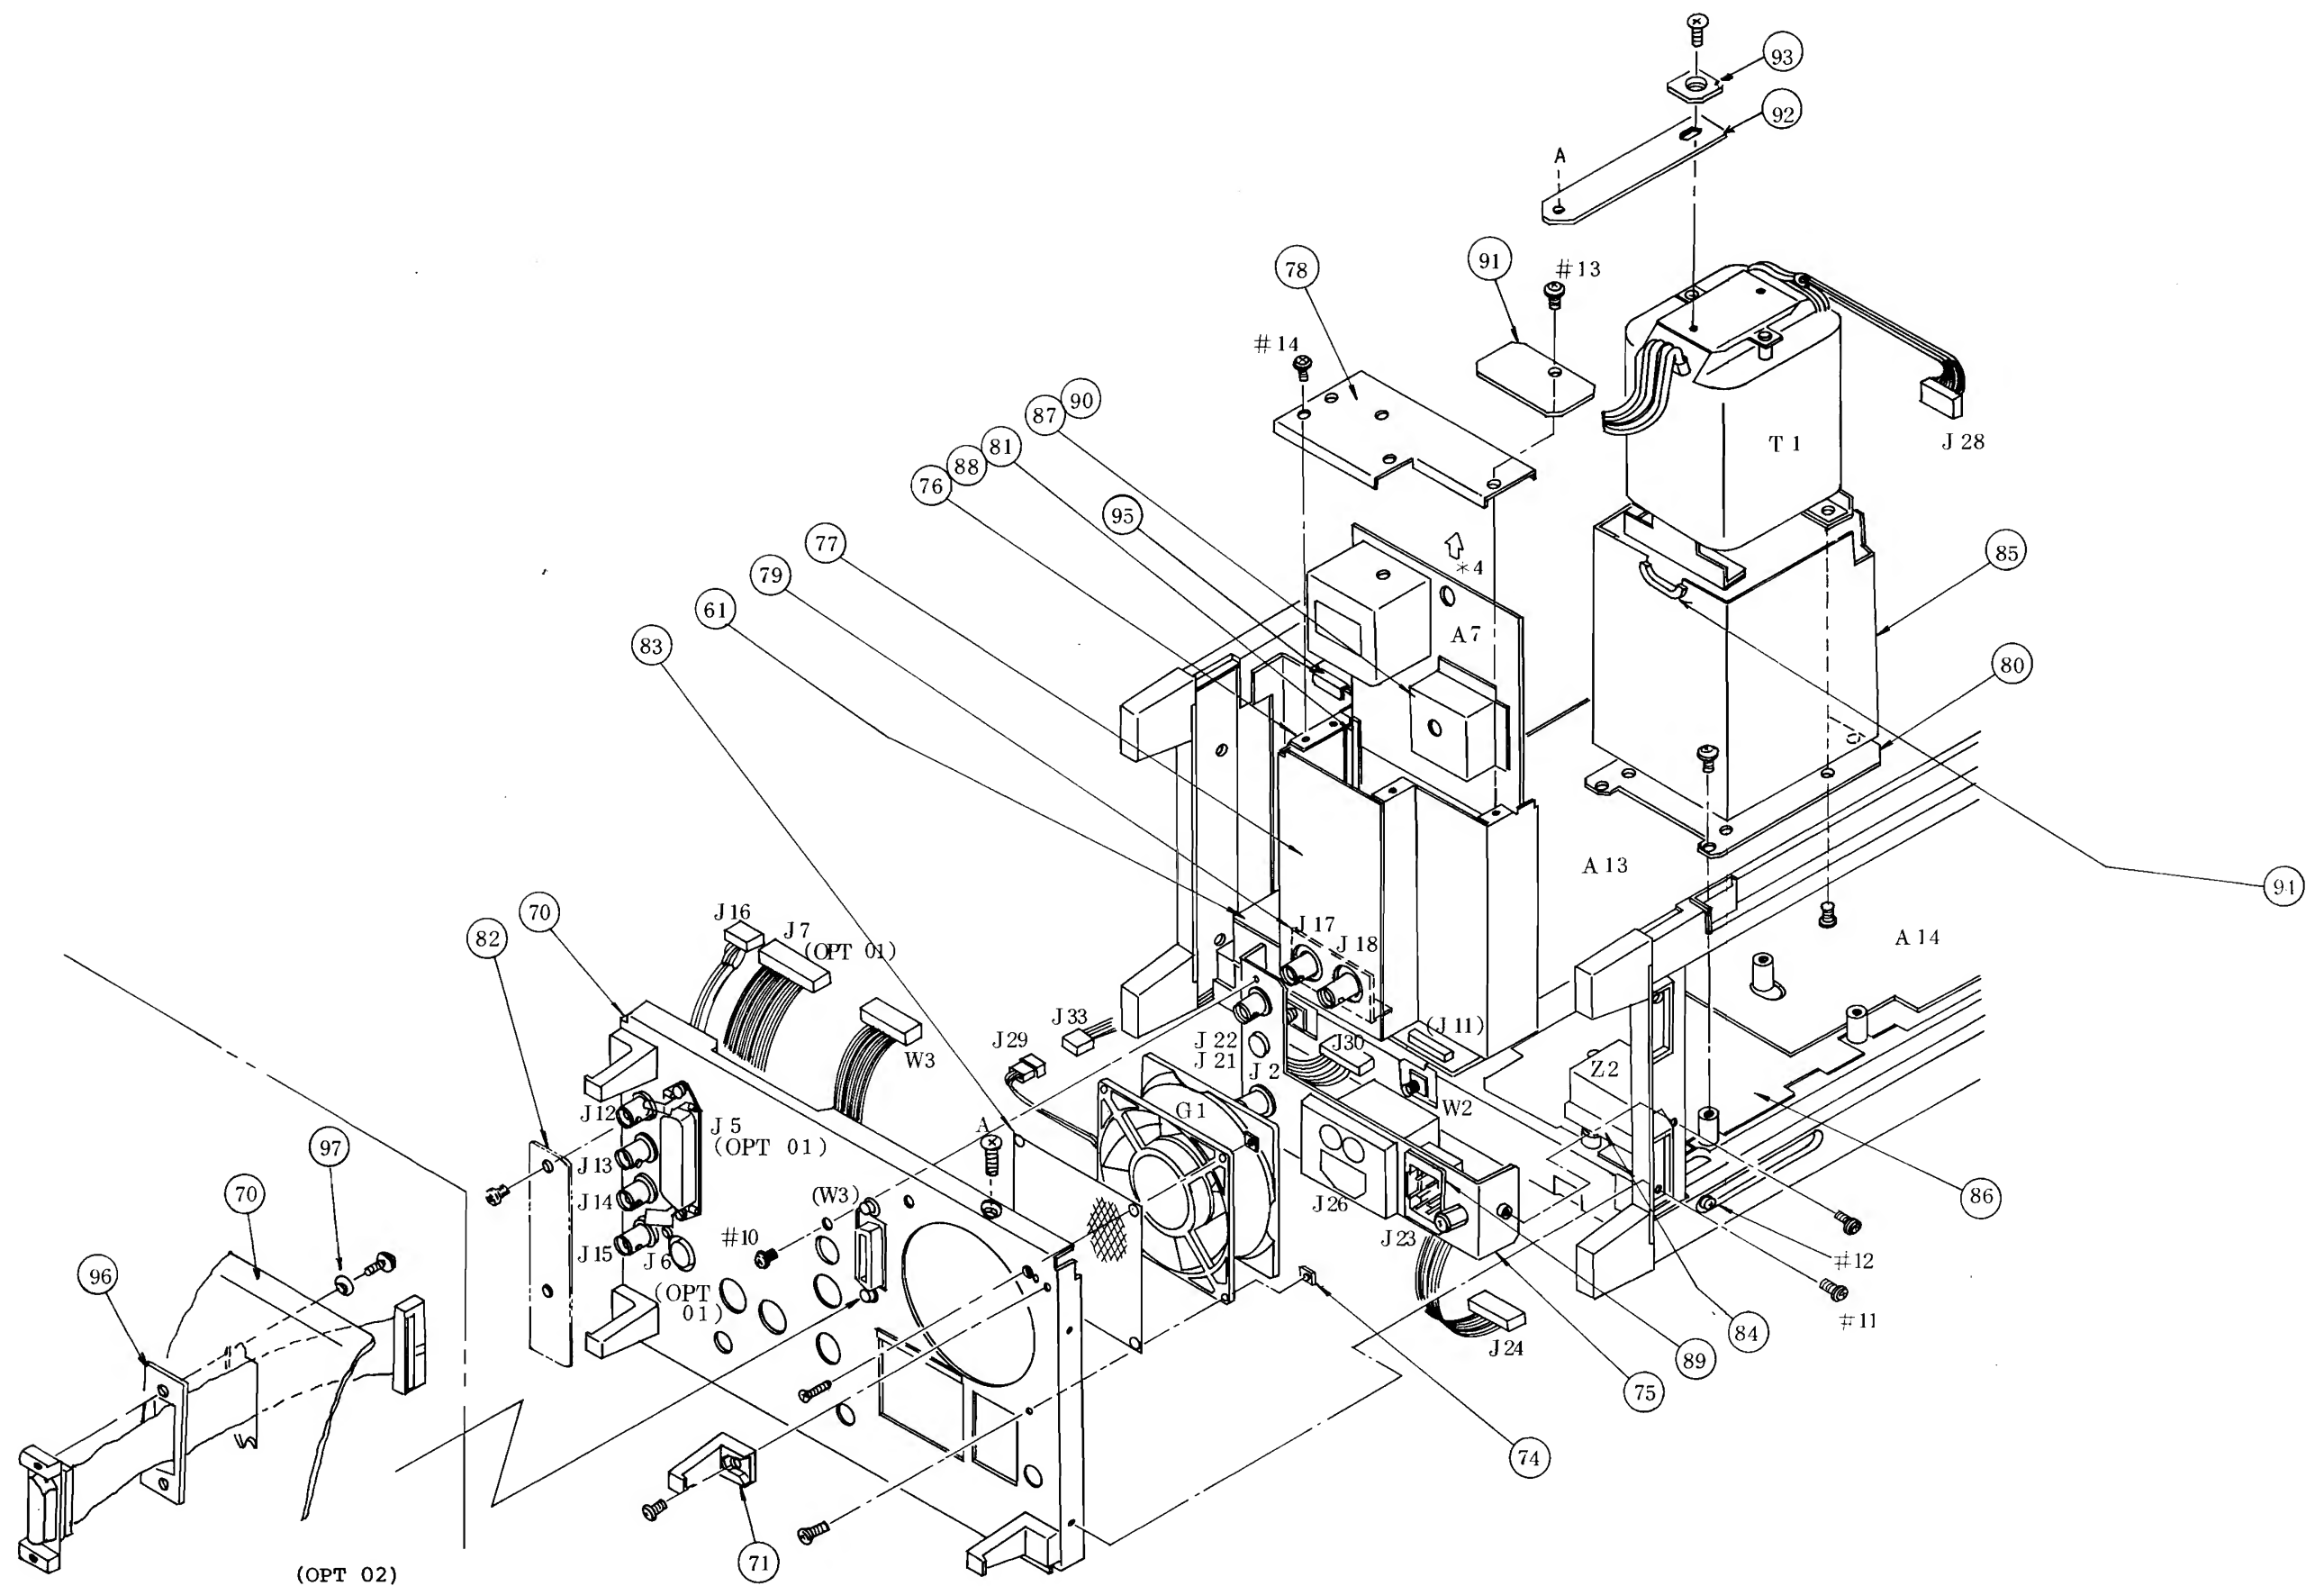

Fig. 2-4 Rear Panel Removal
2	Remove the rear panel (70) as described below by referring to Fig. 2-4. <ol style="list-style-type: none">1) Remove the screw #10 at the center of the rear panel.2) Remove the four screws (two at each side) #11 at the sides of the rear panel.3) Remove the connectors J29, J16, J7 (OPT 01) and W3 connected to each unit.4) Remove the rear panel by sliding it backwards little by little.
2	Remove the A7 REF OSC as described below by referring to Fig. 2-4. <ol style="list-style-type: none">1) Remove the screw #13 and then the clamp (91) .2) Remove the three screws #14 and then remove the cover (78) .3) Pinch the part marked with *4 with pliers and lift it up.
2	Remove the screw #13 and then remove the clamp (91) by referring to Fig. 2-4.
Table 2-4 Mechanical Parts List for Fig. 2-4